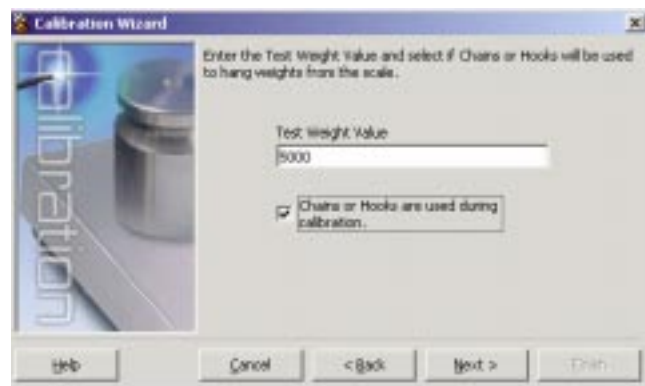

Figure 4-5. *iRev* Test Weight Value Display
3. Enter the test weight used to calibrate the scale (see Figure 4-5). If chains or hooks are used to hold the weights, check the box below the test weight value entry. This adds a rezero step to the calibration sequence.